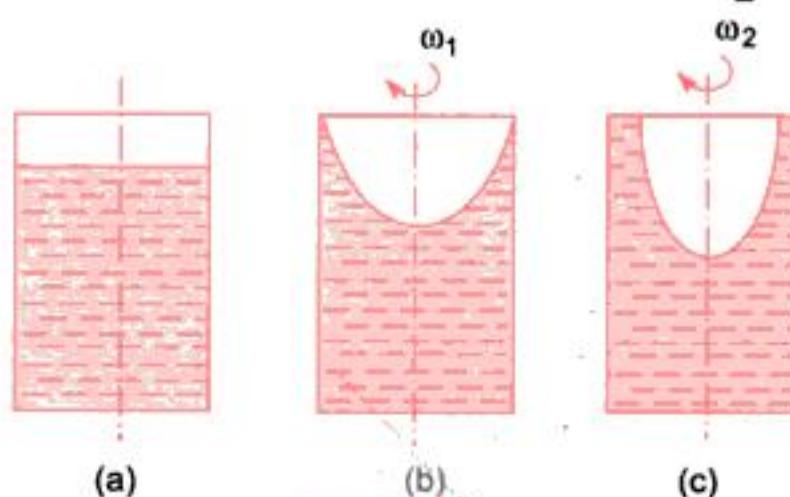

Fig. 5.20
5.10.5 Closed Cylindrical Vessels. If a cylindrical vessel is closed at the top, which contains some liquid, the shape of paraboloid formed due to rotation of the vessel will be as shown in Fig. 5.20 for different speed of rotations.
Fig. 5.20 (a) shows the initial stage of the cylinder, when it is not rotated. Fig. 5.20 (b) shows the shape of the paraboloid formed when the speed of rotation is ω_1 . If the speed is increased further say ω_2 , the shape of paraboloid formed will be as shown in Fig. 5.20 (c). In this case the radius of the parabola at the top of the vessel is unknown. Also the height of the paraboloid formed corresponding to angular speed ω_2 is unknown. Thus to solve the two unknown, we should have two equations. One equation is